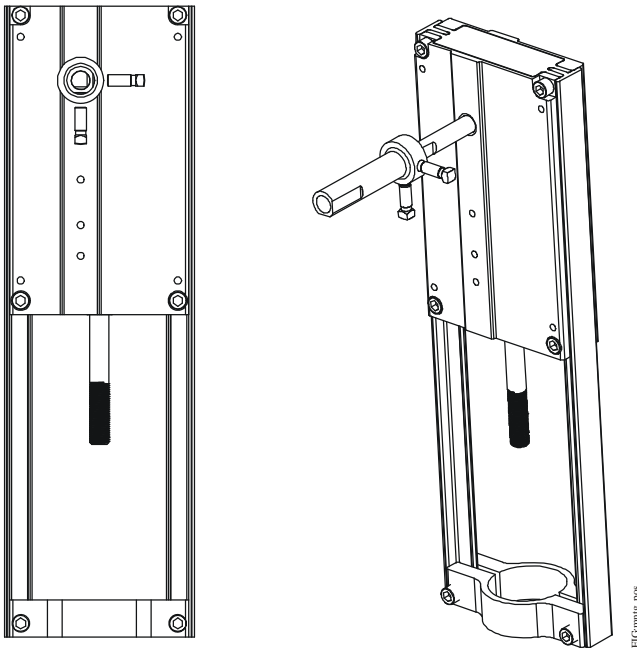

Figure 6: Proper Mounting Position for Shaft Extension
- For the M9000-320 kit used with the M9220 Series actuators, install the shaft extension onto the input shaft of the valve linkage. Ensure that the set screws located on the shaft extension are oriented perpendicular to the flat surfaces on the input shaft. (See Figure 6.) To reduce friction, ensure that the shaft extension and the seal assembly are not in contact. A gap of no more than 1/8 in. is recommended between these two components.